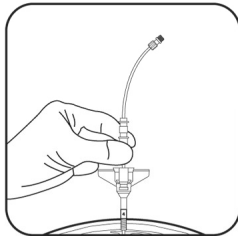
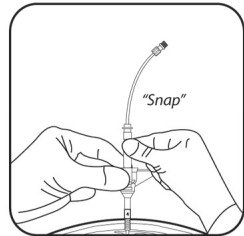

Figure 5: Place fingers on support handle and insert Catheter in bolt.
Figure 6: Press down on Support Handle until Catheter "snaps" into bolt.
- ⇒ Hold the Support Handle on the Catheter and insert it into the Bolt Assembly (Fig. 5). Press down on the Support Handle firmly until the Catheter snaps (Fig. 6) into the Bolt.